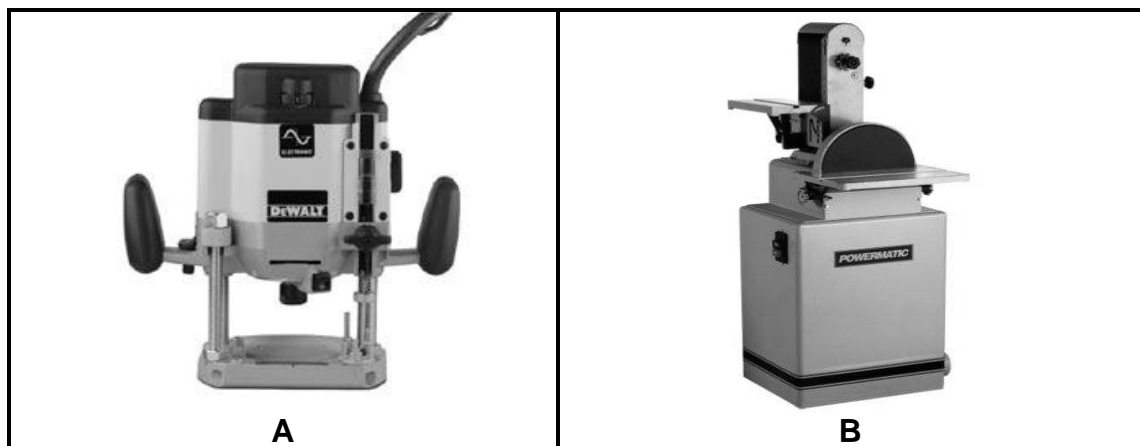

FIGURE 4.9
- 4.9 FIGURE 4.9 below shows two woodworking machines. Study the pictures and answer the questions that follow.